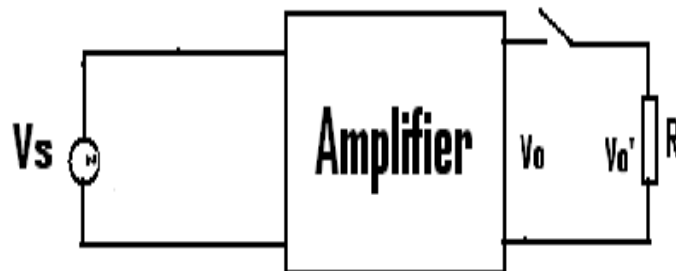

Fig.3.3
- 1) Connect the circuit as shown in Fig 3.3.
- 2) Connect a resistance R_L across the output terminals of the amplifier as shown in the figure 3.3.